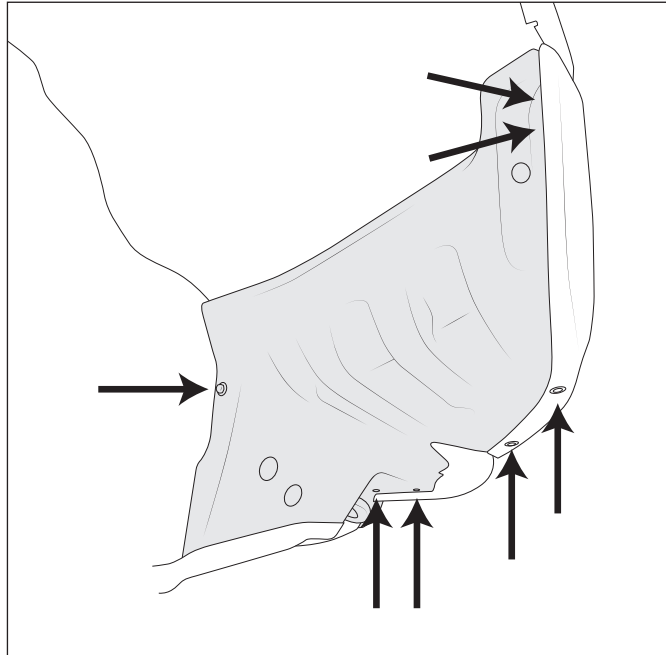

Figure 5
4. Remove LH and RH wheel liner closeouts (fig. 5).